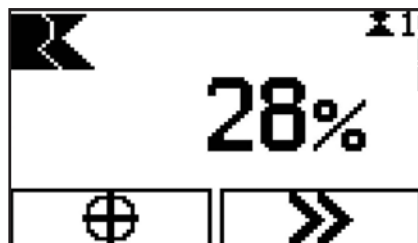

Figure 43 - 'Absolute positioning' mode
- Absolute positioning (Figure 43)
⇒ The display screen switches to 'Absolute positioning' mode (Figure 43).